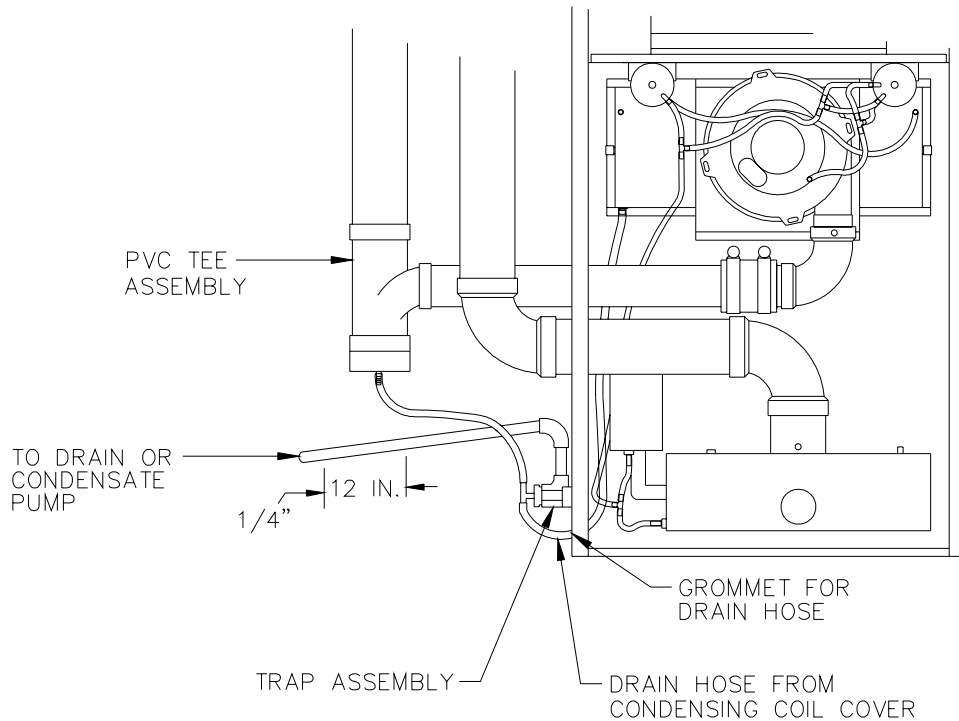

Figure 15. TRAP ASSEMBLY MOUNTED ON CDX1
4. Measure the drain hose (11/16" o.d. clear tubing) provided and remove any extra length, making sure that the hose has sufficient length not to kink or otherwise be restricted once installed. Attach the drain hose (11/16" o.d. clear tubing) to the other side of the condensate trap tee. On CHX1/CDX1's, this hose is shipped in the parts package and it will be necessary to attach the other end to the PVC drain tee assembly (see Figure 15). Use the silver clamp(s) provided in the parts package to secure all connections.